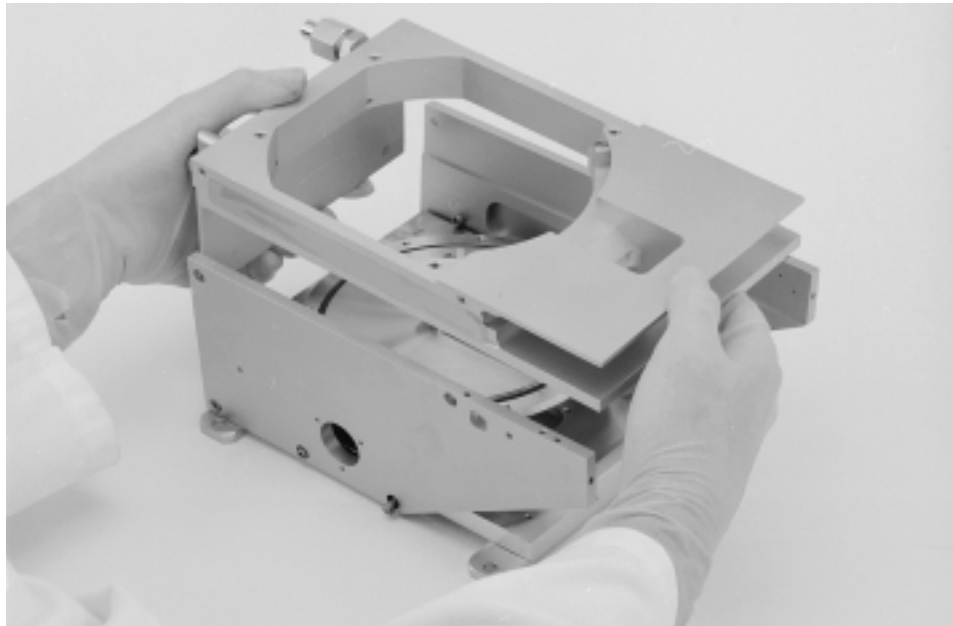

Figure 5-16. Removing the coil housing
Step 16: You should now be able to lift the coil housing free of the pole pieces, as shown in Figure 5-16. If not, further loosen the bottom row of screws that secure one of the pole pieces to the source base plate.